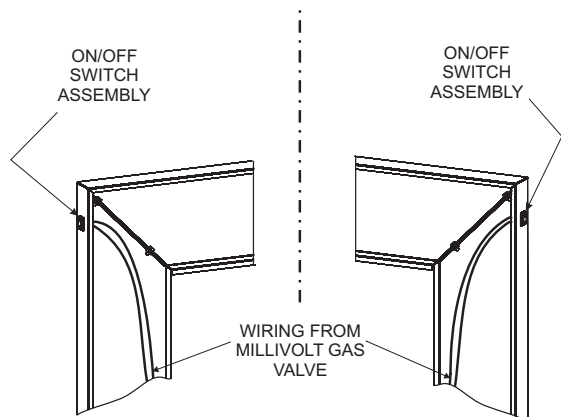

Figure 11
3. Run the low voltage alternate switch wires up the back of the right or left surround panel. Then secure the wires with wire clips provided. **See Figure 11.**